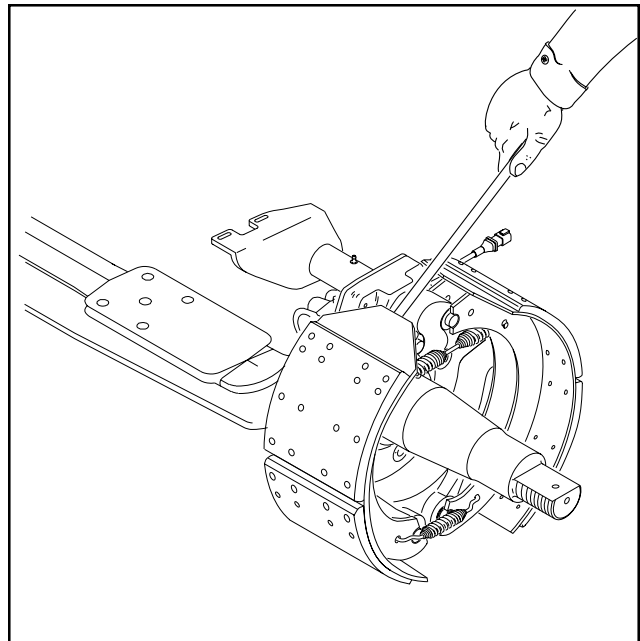

Figure 13
6. Insert sturdy lever between end of shoe and the return spring pin. **See Figure 13**. Pry away from the cam until cam rollers can be installed between
7. Insert sturdy lever between end of shoe and spider. Pry shoe away from cam until cam rollers can be installed. Repeat procedure for opposite side. **See Figure 13**.